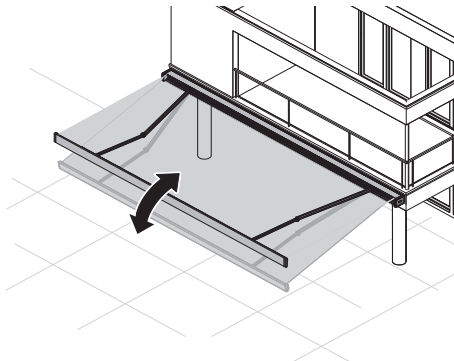

Fig. 22: Adjust the incline
1. Insert the manual crank in the crank slot for the valance (fig. 22).